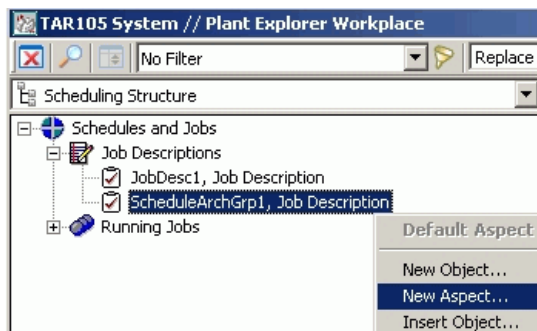

Figure 244. Adding an Action Aspect
1. Right-click on the Job object (for example ScheduleArchGrp1 in Figure 244) and choose **New Aspect** from the context menu.